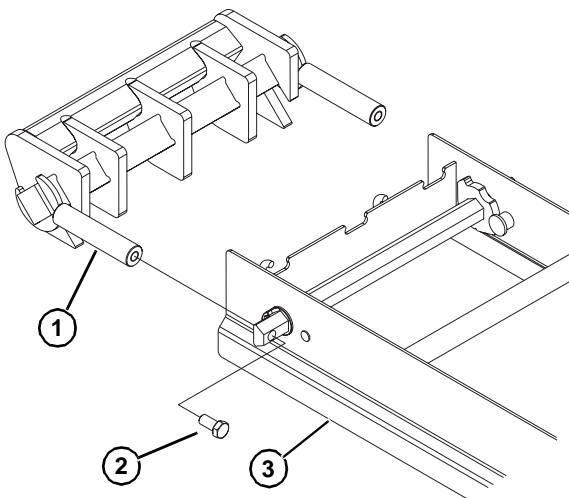

**Figure 19**
1. Place the idler tail assembly (**Figure 19, item 1**) against the holes in the tip up hex shaft assembly (**Figure 19, item 2**) and secure with a bolt (**Figure 19, item 3**) on each side.